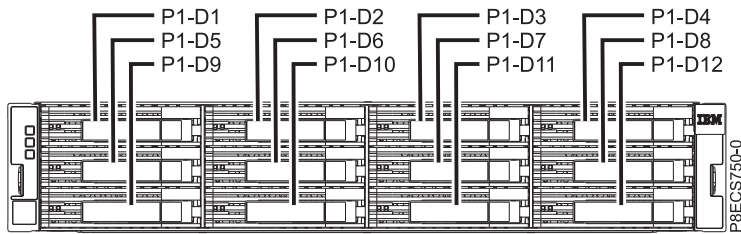
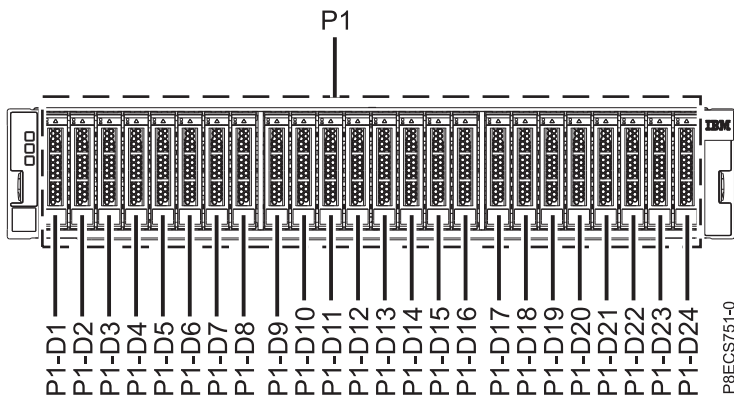
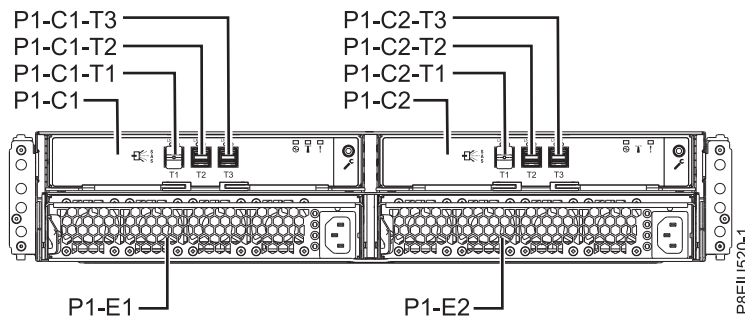
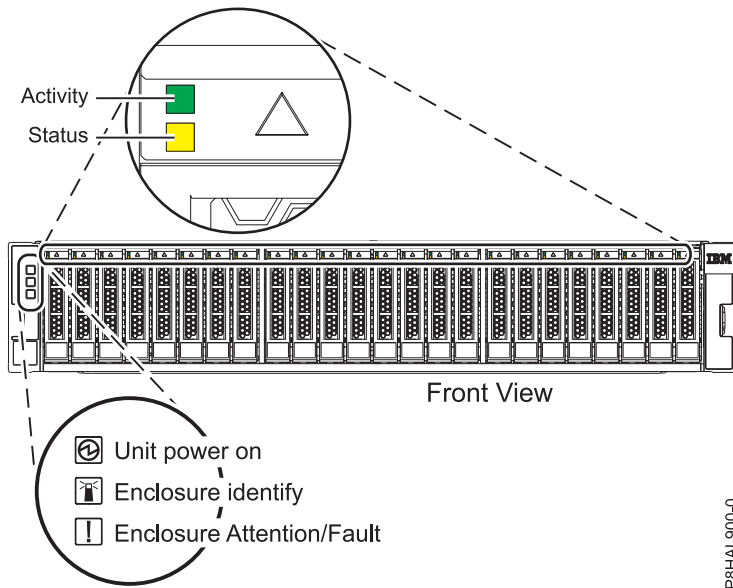

Figure 30. Front view of the ESSL storage enclosure showing the disk drive locations
Figure 31. Front view of the ESLS storage enclosure showing the drive locations
Figure 32. Rear view of the enclosure
Figure 33. Front view of the enclosure showing the service indicators
3. Identify the part and the enclosure that you want to service. The disk drive and SSD slots are located in the front of the enclosure. Figure 30 shows the front of the ESSL storage enclosure, Figure 31 shows the front of the ESLS storage enclosure, Figure 32 shows the rear view of the storage enclosures, and Figure 33 on page 28 shows the locations of the service indicators for the storage enclosures.